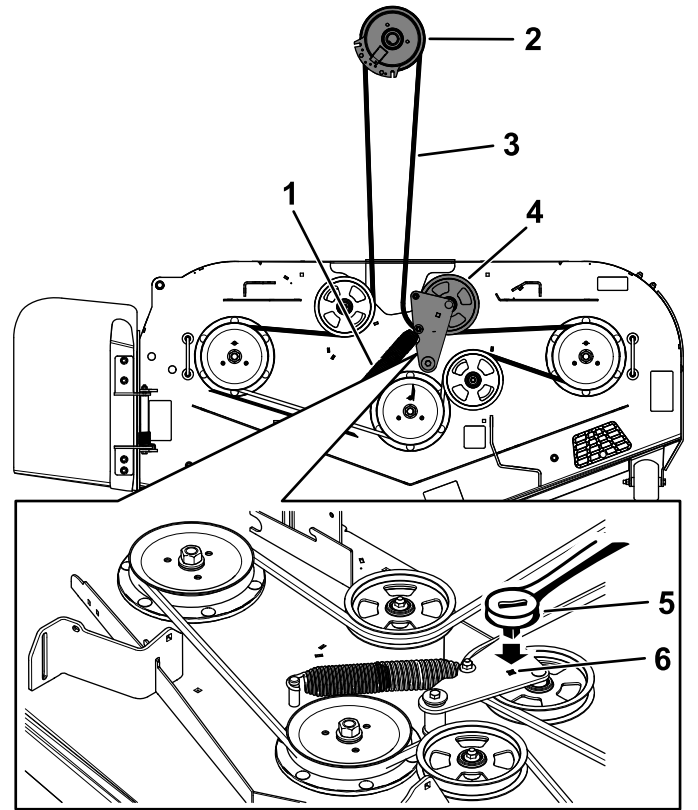

Figure 72
6. Use a 3/8-inch ratchet in the square hole in the idler arm to remove the idler spring (Figure 72).
8. Remove the belt guide on the spring-loaded idler arm (Figure 72).
10. Install the new belt around the mower pulleys and the clutch pulley under the engine (Figure 72).
11. Install the belt guide on the idler arm (Figure 72).
12. Using the 3/8-inch ratchet in the square hole, install the idler spring (Figure 72).